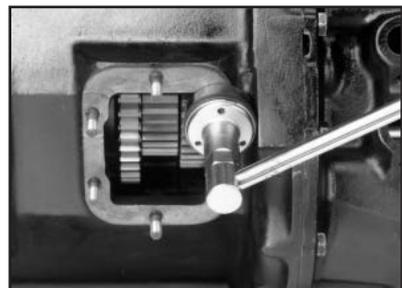

Figure 3
3. Install the proper studs (furnished with the PTO) in the PTO aperture pad using a stud driver. Studs may have either interference fit threads (plain) or pre-applied locking/sealing compound (**Fig. 3**).